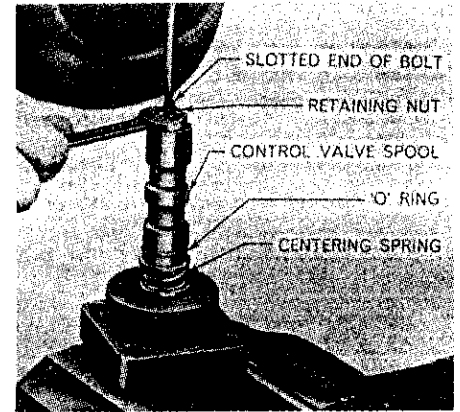

Fig. 38—Valve spool bolt has screwdriver slot in threaded end to facilitate removing and installing spool retaining nut.
37). Separate the power cylinder from control valve and slide the valve housing (27) from valve spool. Place the ball socket and valve spool unit upright in vise as shown in Fig. 38. Remove cotter pin from valve spool bolt (35—Fig. 37), hold bolt from turning with screwdriver and remove the castellated nut (23) and flat washer (24). Remove valve spool (28), washers (30), centering spring (31) and spacer disc (32) from bolt. Remove "O" ring (25) from valve housing and "O" ring (29) from valve spool. Remove check valve pin (21) with a stiff wire, then remove check valve ball (22) from valve housing. Remove "O" ring (20) from valve pin.